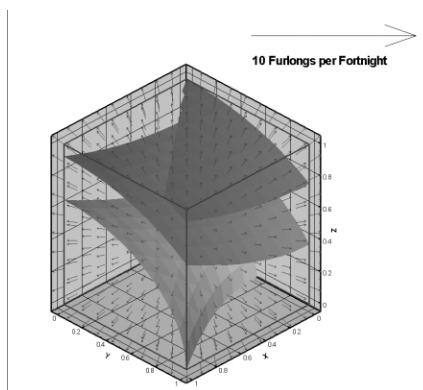

Figure 13-11. An example of a vector plot with a reference vector included
- **Reference Vector** - A reference vector is a vector of specified magnitude placed on the plot as a measure against all other vectors. Figure 13-11 shows a plot with a reference vector.